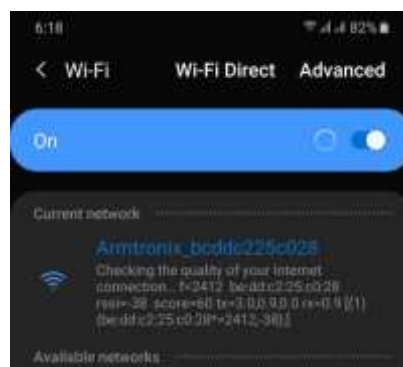

Figure 13: Hosting device with tasmota name
5. Once the device Powered ON, it will host an access point as shown in Figure 13 below: